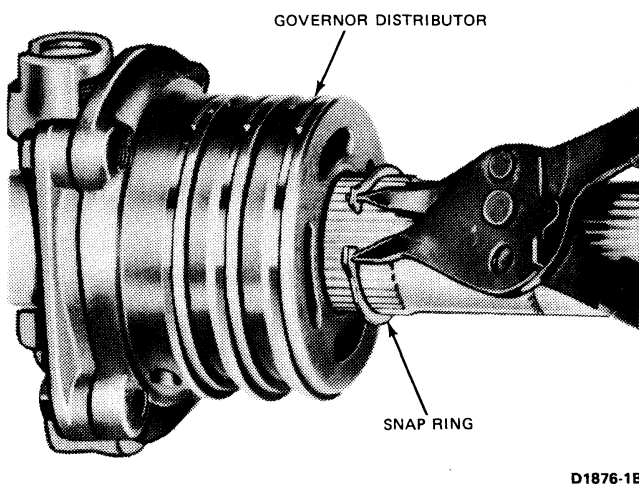

FIG. 29 Removing or Installing Governor Distributor Snap Ring
22. Remove the governor distributor snap ring from the output shaft (Fig. 29). Remove the governor distributor from the output shaft.
7. Install the governor distributor assembly on the output shaft. Install the distributor snap ring (Fig. 29).